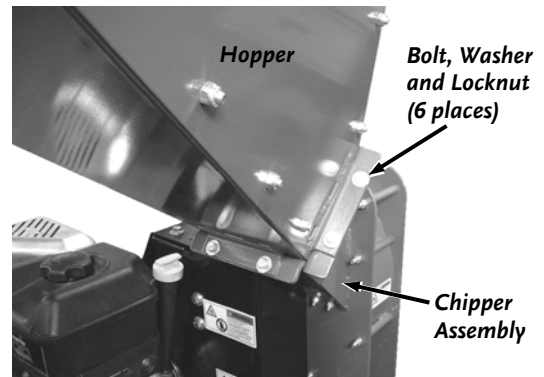

Figure 28
1. Have someone support the Hopper as you use two 1/2" wrenches to remove the six Bolts, Washers and Locknuts that support the Hopper to the Chipper Assembly (**Figure 28**).
4. Position the Chipper Hopper into the Hopper Bracket and secure with the six Bolts, twelve Washers and six Locknuts (**Figure 28**).